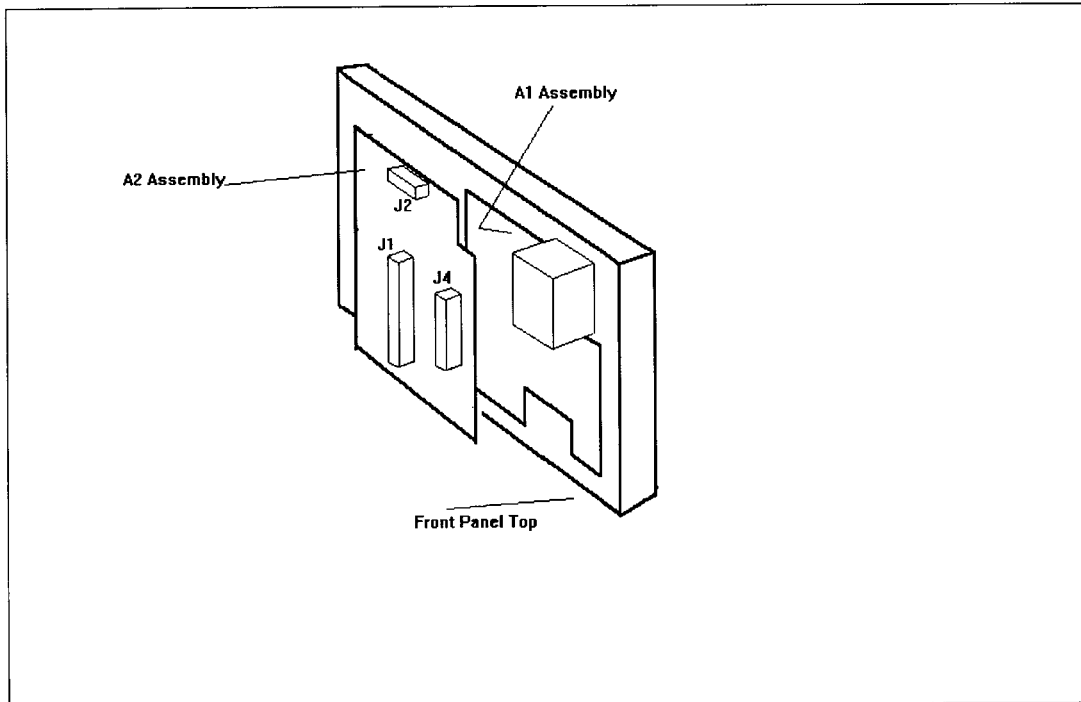

Figure 2 Location of Front Panel Board Assemblies
6. The Front Panel can now be pulled forward out of the instrument after unplugging the ribbon cable to the Motherboard at socket A2 J1 (see Figure 2).
7. Remove the Paper Compartment Cover (E) by pushing down on it from above then pulling it forward and away from the front panel. The paper roll (A) will leave the instrument on spindle (F) along with this cover. Tear the paper to detach the roll from the printer head. The cover and paper roll can now be set aside.
8. With the front panel face down on the workbench, unplug A2 J4, then unscrew the five posidriv screws which secure A1 to the front panel. Lift this board assembly away from the front panel complete with the printer mechanism (see Figure 2).